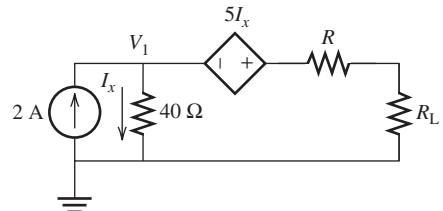

FIGURE P3.74 Circuit for Problem 3.74.
- 3.74 (A)*** Find the value of R where R_L equals 50 Ω and draws the maximum power in Figure P3.74.